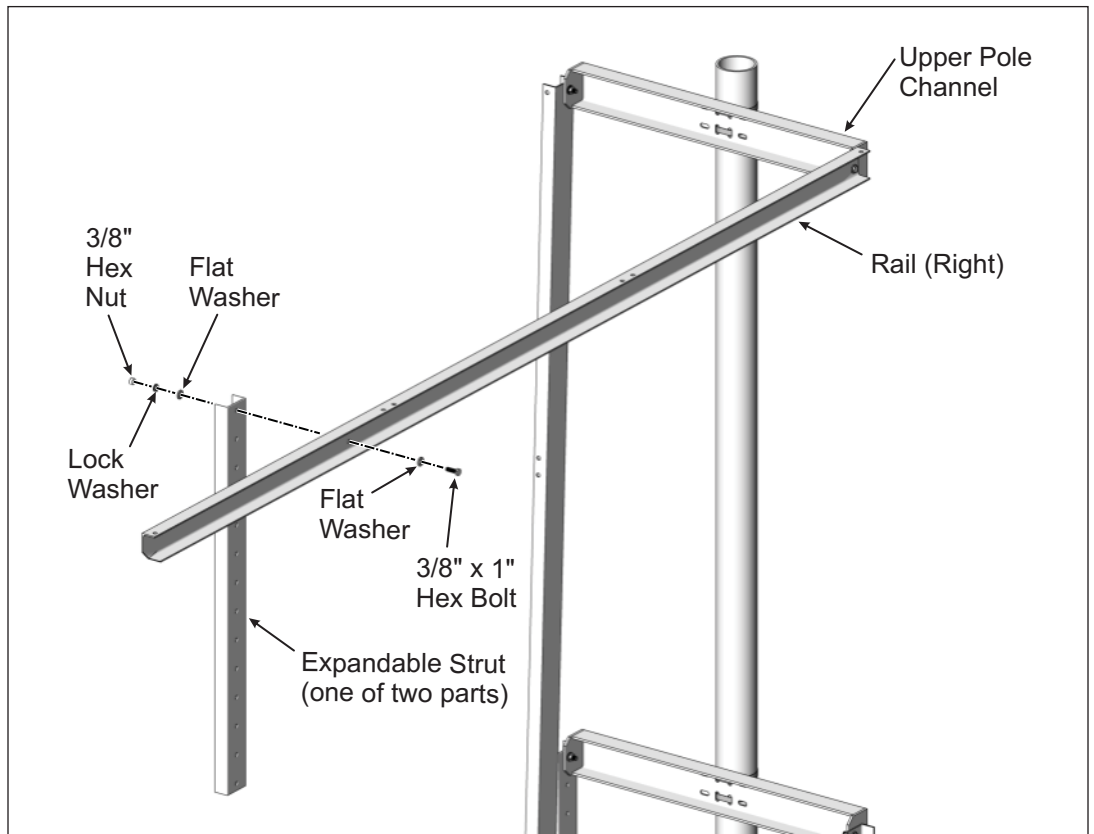

Figure 4-1: Attaching Second Half of Expandable Struts to Rails
- A. Using the corresponding attachment point that sets the desired tilt, attach the Struts as shown in Figure 4-1. Secure with one 3/8" x 1" hex bolt, lock washer, flat washers and Hex Nut. Finger tighten for now.